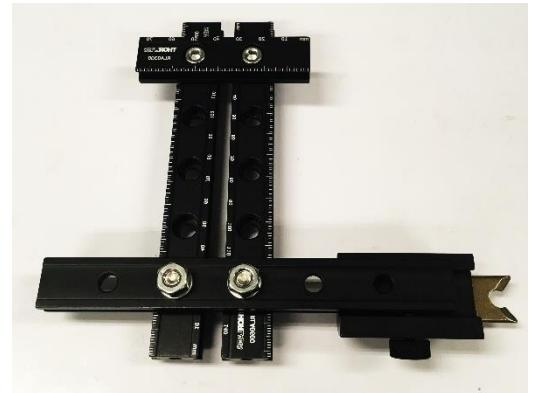

Figure 10 Dovetail rails with carrier installed
- Slide the rail carrier onto the underside of the 6" rail that crosses the other two 6" rails. For the left head-fixing assembly, the carrier should slide onto the longer overhanging part of the 6" rail that protrudes to the right. The clamp should be facing to the right, and the thumbscrew should be facing forwards. See Figure 10 for the results of this step.